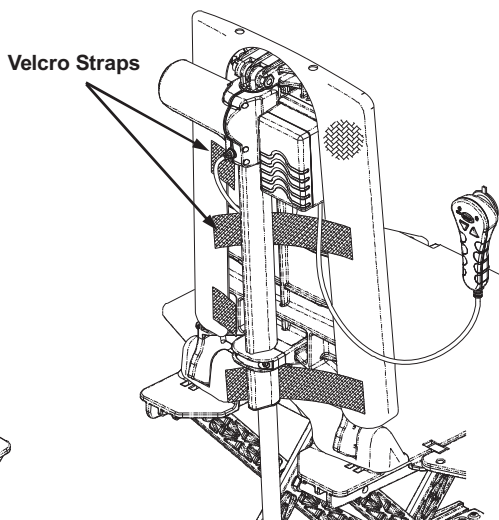

Fig. 11. Tighten the Backrest Mat with the Velcro Straps
5. Tighten the Backrest Mat by clipping the Velcro Straps, as shown in Fig. 11.